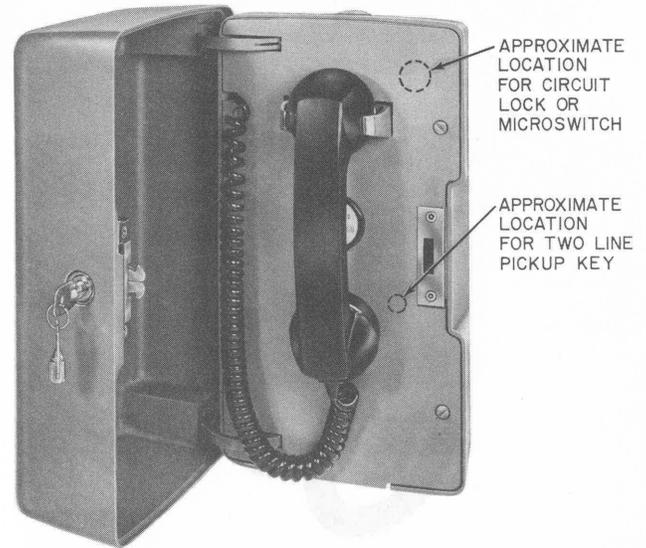

Fig. 5—526A or AM Telephone Set Installed in 526A Housing
2.09 526A or AM Telephone Set Base (Fig. 5).